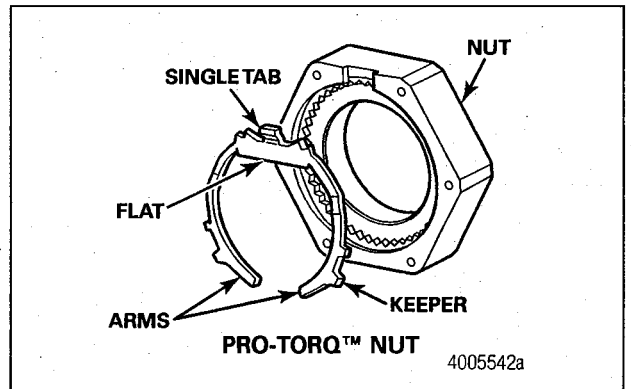

Figure 5
- B. Use a 3.5" socket wrench to remove the PRO-TORQ™ nut. Figure 5.